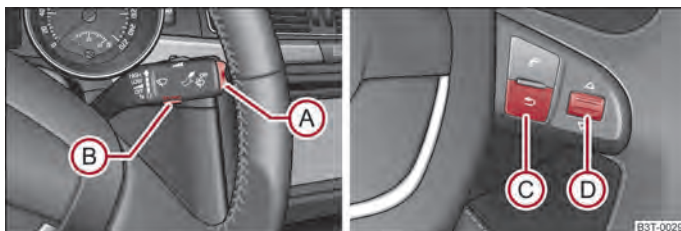

Fig. 6 Multi-functional indicator: Controls on the windshield wiper lever/controls on the multifunction steering wheel
Switching over the memory with the help of the button **(B)** $\Rightarrow$ fig. 6 on the windscreen wiper lever or with the help of the button **(D)** on the $\Rightarrow$ fig. 6 multifunction steering wheel.
The rocker switch (A) → fig. 6 and the button (B) are located on the windshield wiper lever. Switching over and resetting is performed with the handwheel (D) → fig. 6 on the multifunction steering wheel.
If the outside temperature drops below +4 °C, a snow flake symbol (warning signal for ice on the road) appears before the temperature indicator and a warning signal sounds. After pressing the rocker switch (A) at the windshield wiper lever → fig. 6 or the button (C) at the multifunction steering wheel → fig. 6, the function shown last is indicated.
The driving time which has elapsed since the memory was last erased, appears in the display. If you wish to measure the driving time as of a particular time, you must set the memory to zero at this moment in time by pressing the button (B) on the windshield wiper lever → fig. 6 or the handwheel (D) on the multifunction steering wheel → fig. 6 for longer than 1 second.
If you wish to determine the average fuel consumption over a certain period of time you must set the memory to zero at the start of the measurement using the button **(B)** on the windshield wiper lever ⇒ fig. 6 or with the handwheel **(D)** on the multifunction steering wheel ⇒ fig. 6. A zero appears in the display for the first 100 m you drive after erasing the memory.
The distance driven since the memory was last erased appears in the display ⇒ page 14. If you wish to measure the distance driven of a particular time, you must set the memory to zero at this moment in time by pressing the button **(B)** on the windshield wiper lever ⇒ fig. 6 or the handwheel **(D)** on the multifunction steering wheel ⇒ fig. 6.
The average speed since the memory was last erased is shown in the display in km/hour ⇒ page 14. If you wish to determine the average vehicle speed over a certain period of time you must set the memory to zero at the start of the measurement using the button **(B)** on the windshield wiper lever ⇒ fig. 6 or with the handwheel **(D)** on the multifunction steering wheel ⇒ fig. 6.
- With the **(A)** button on the multi-function steering wheel $\Rightarrow$ fig. 6 or the hand-wheel **(D)** on the multi-function steering wheel $\Rightarrow$ fig. 6, choose the menu point **Warning against excessive speeds**.